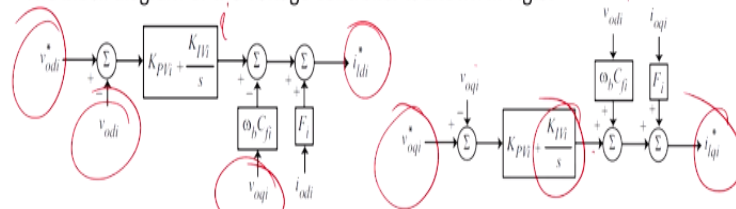

Fig. 3 Block diagram of the voltage controller
➤ The block diagram of the voltage controller is shown in Fig.3.
- where ϕ_{di} and ϕ_{qi} are the auxiliary state variables defined for PI controllers in Fig.3 and ω_b is the nominal angular frequency. Other parameters are shown in Figs.1 and 3.
So, where phi di and the phi qi are the auxiliary state variables of the PI controller in the controller in figure 3 and omega b is the nominal angular frequency and the parameters are shown in the figure 1 and 3. And now, let us see the current control block. So, you got reference for the iq, id axis and you have got a reference from the, this is actually you will compare it, then you may put it to this actually the PI controller.